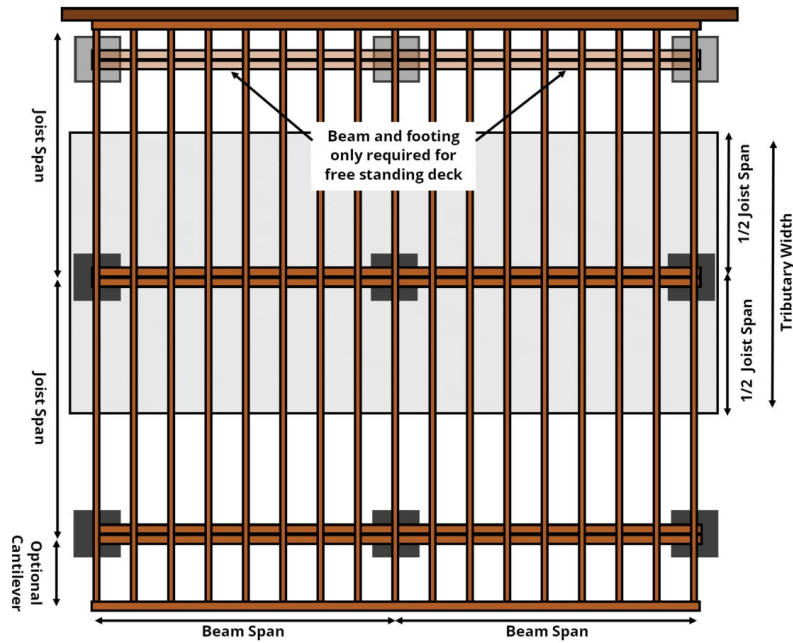
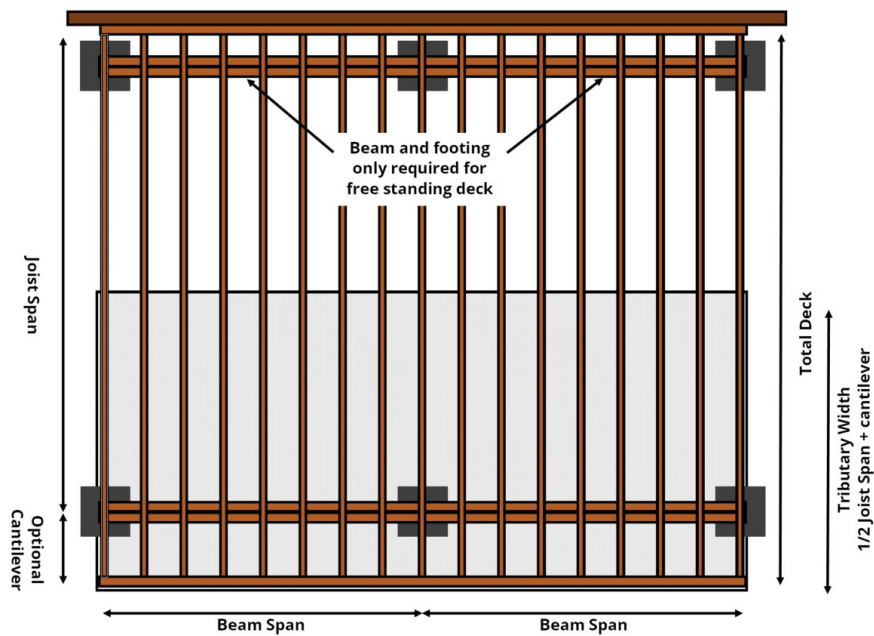

FIGURE 8 - DOUBLE- SPAN DECK PLAN FIGURE
FIGURE 9 - SINGLE SPAN DECK PLAN FIGURE
- Single span decks are framed with joists that have one span between beams (not including overhang) as shown in Figure 9.
- Multi-span decks (maximum of two spans) have joists with more than one span which bear on multiple beams as shown in Figure 8.
Tributary Width = ½ longest joist span₁ + ½ longest joist span₂ + cantilever (See Figure 8 and Figure 9)
- Beam span length, as shown in Figure 8, is measured between the centerlines of two adjacent posts and does not include the beam overhangs.
Tributary Width (ft) (See Figure 8 and Figure 9)	Longest Beam Span (feet)
- Joist span is measured from the ledger board to center of supporting beam, or between the center of the supporting beams at each end of the joist as shown in Figure 8 and 9.